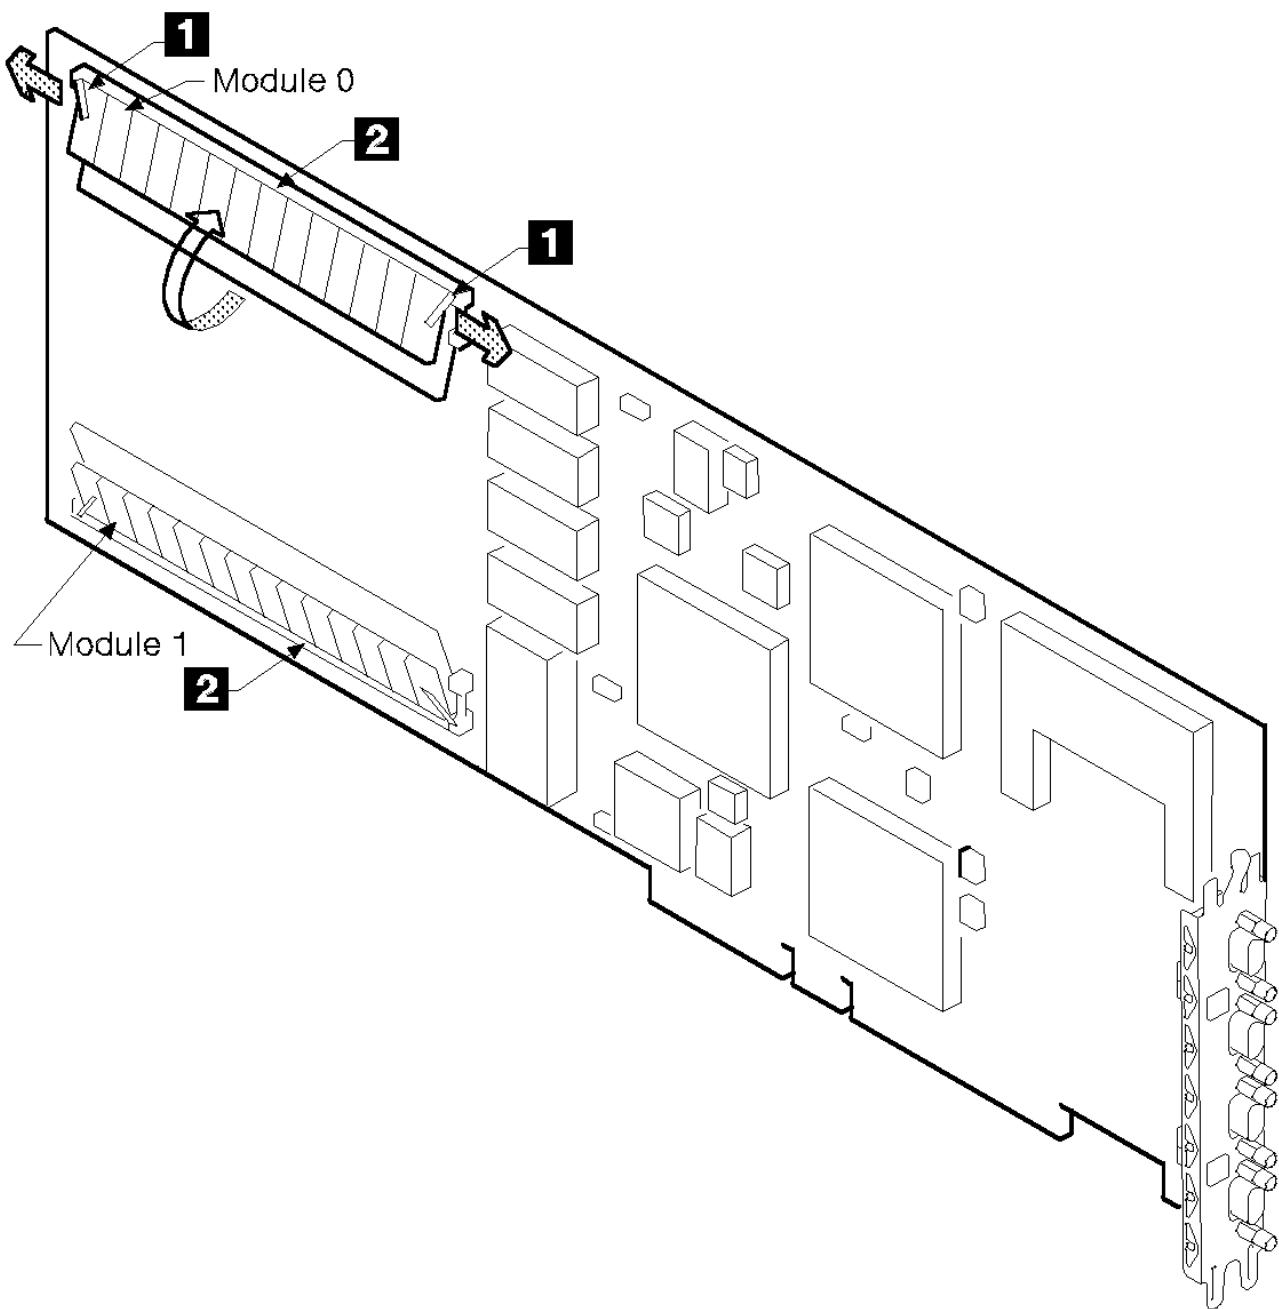

Figure 10-1. Removing a DRAM Module
Figure 10-1 shows an adapter that might not be of the type you are servicing. The instructions, however, are suitable for all these types of adapter.
1. Refer to Figure 10-1 in topic 2.2.3.